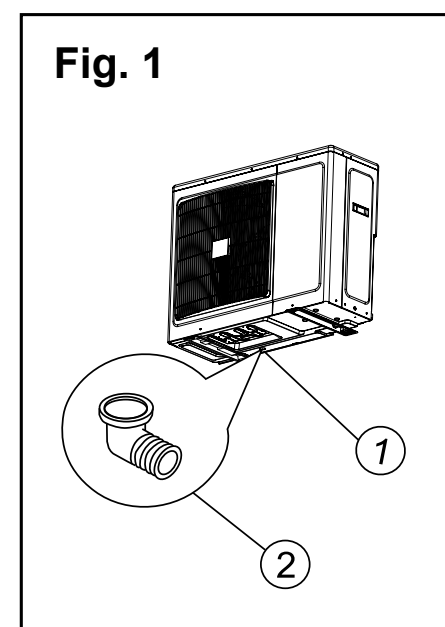
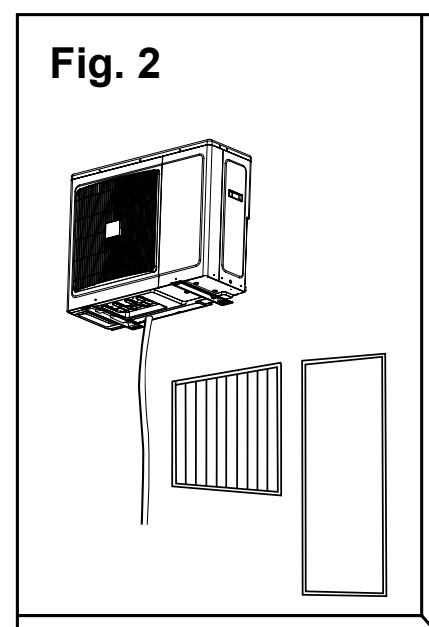

Fig. 1
Fig. 2
- When the unit is installed on a wall, install the drain connector hose and drain plug as shown in fig 1 and fig 2.